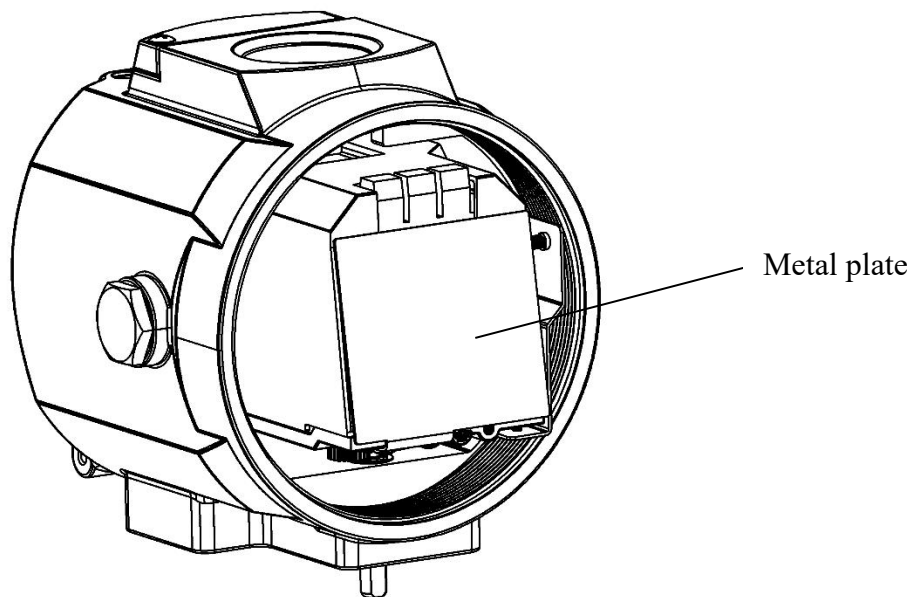

Figure 29. Internal metal plate
- Install the feedback module according to the position shown in Figure 29, and connect electrical connectors of the module with the connectors on the circuit board according to the corresponding colors, fix the feedback module with M3 spring washer and M3 pan head screw, and finally install the metal plate and the outer cover.